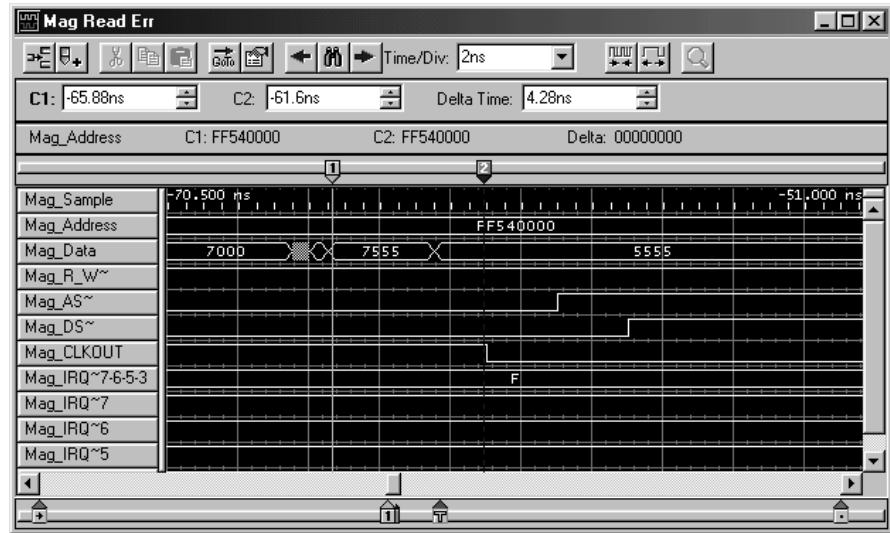

Figure 3–15: Waveform window for Exercise 4
4. Zoom in on the faulty data, and you can see the actual data read by the logic analyzer in the Listing window (Figure 3–14).